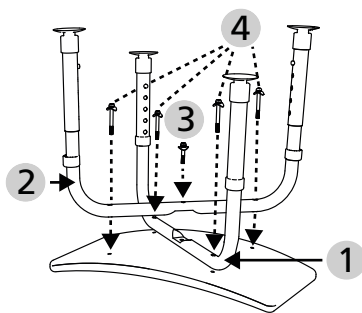

Abb. 2
1. Place the seat with the underside pointing upwards on a clean, flat and stable surface (floor or table) (Fig. 2).
2. For mounting the telescopic legs, they are arranged crossed on the underside of the seat. The telescopic leg numbered 1 is placed at the bottom (Fig. 2, 1) and the telescopic leg numbered 2 (Fig. 2, 2) is placed above it and fixed in the centre (Fig. 2, 3). Use the following parts for this:
3. Screw the telescopic legs to the seat surface using the four remaining drill holes (Fig. 2, 4). Use the following parts for this: